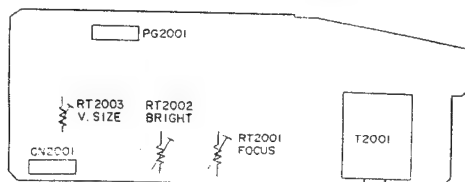

Fig. 4-72 Electrical Adjustment (EVF) Circuit Board (Parts Side)
(3) EVF Vertical Size Adjustment (Fig. 4-72)
(4) EVF Brightness Adjustment (Fig. 4-72)
(5) EVF Focus Adjustment (Fig. 4-72)